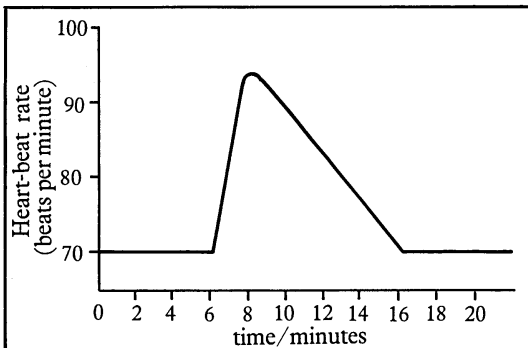

Figure 5 The woman's heart-beat rate at different times. (See Question 3.)
- 3 A woman's heart-beat rate was measured at different times. The results are shown in Figure 5.